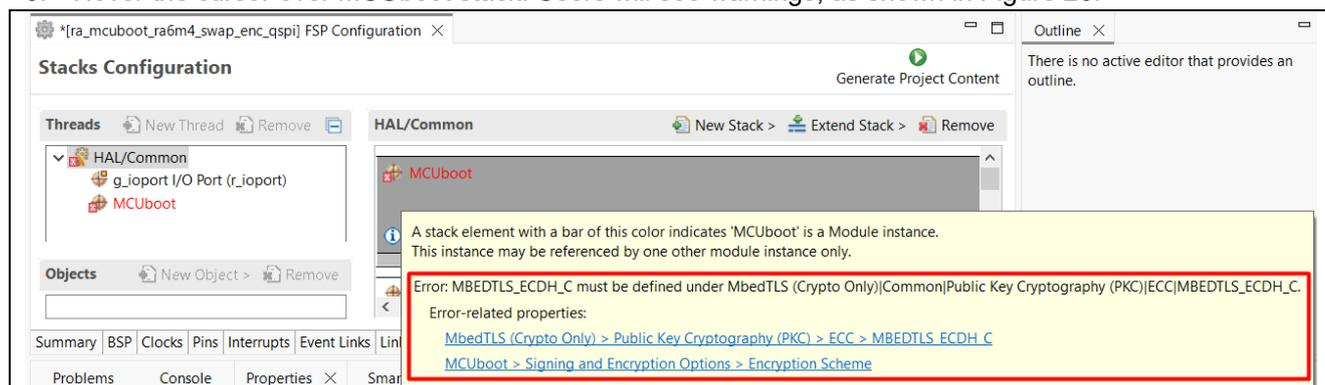

Figure 26. Dependencies of MCUboot stack
3. Hover the cursor over MCUboot stack. Users will see warnings, as shown in Figure 26.
To fix the above MCUboot dependency, define the `MEBEDTLS_ECDH_C` following the prompt in Figure 26.